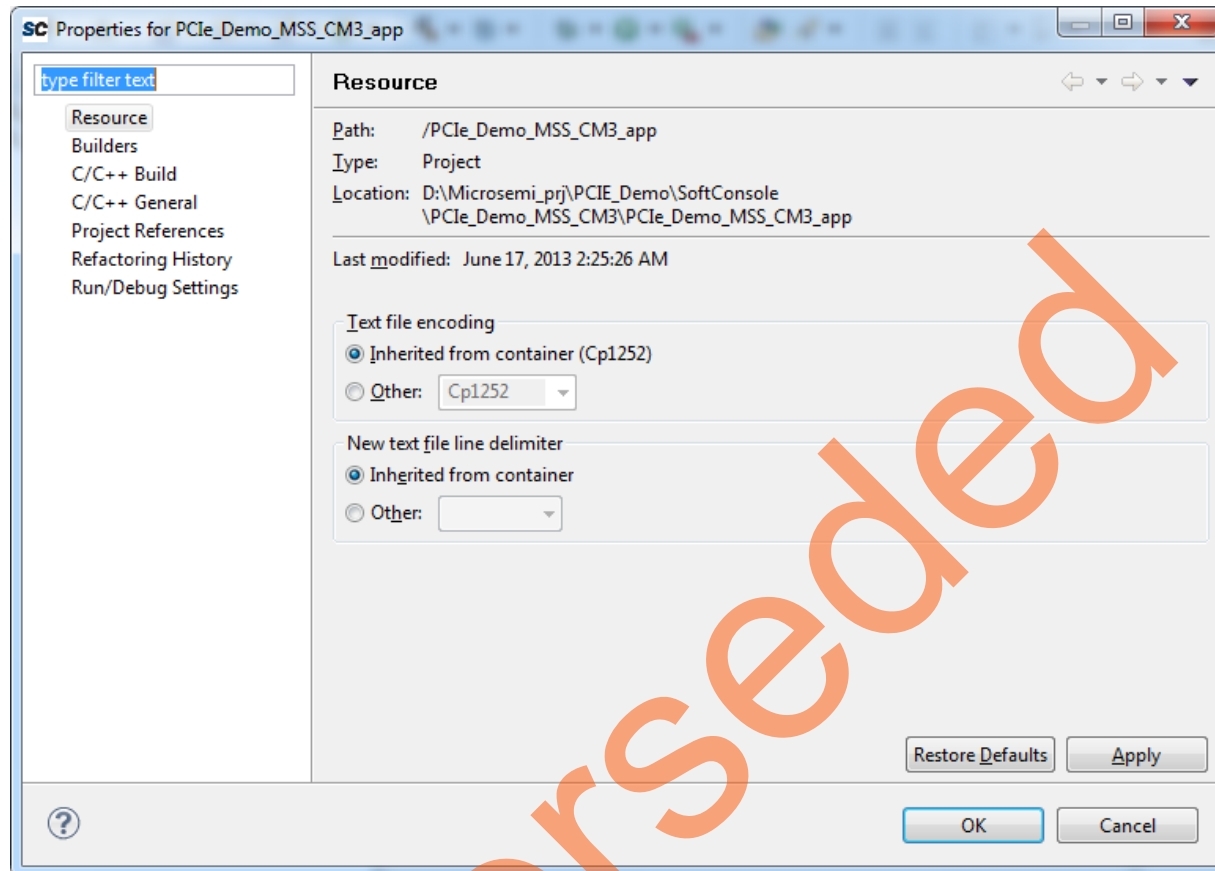

Figure 33 • Properties Window
6. The **Properties for PCIe_Demo_MSS_CM3_app** window is displayed as shown in Figure 33.